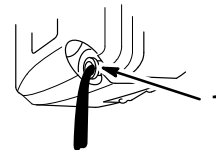

Figure 13
4. Remove the dipstick and tip the mower on the left side, draining the oil out the oil fill tube into an appropriate container (Fig. 13).